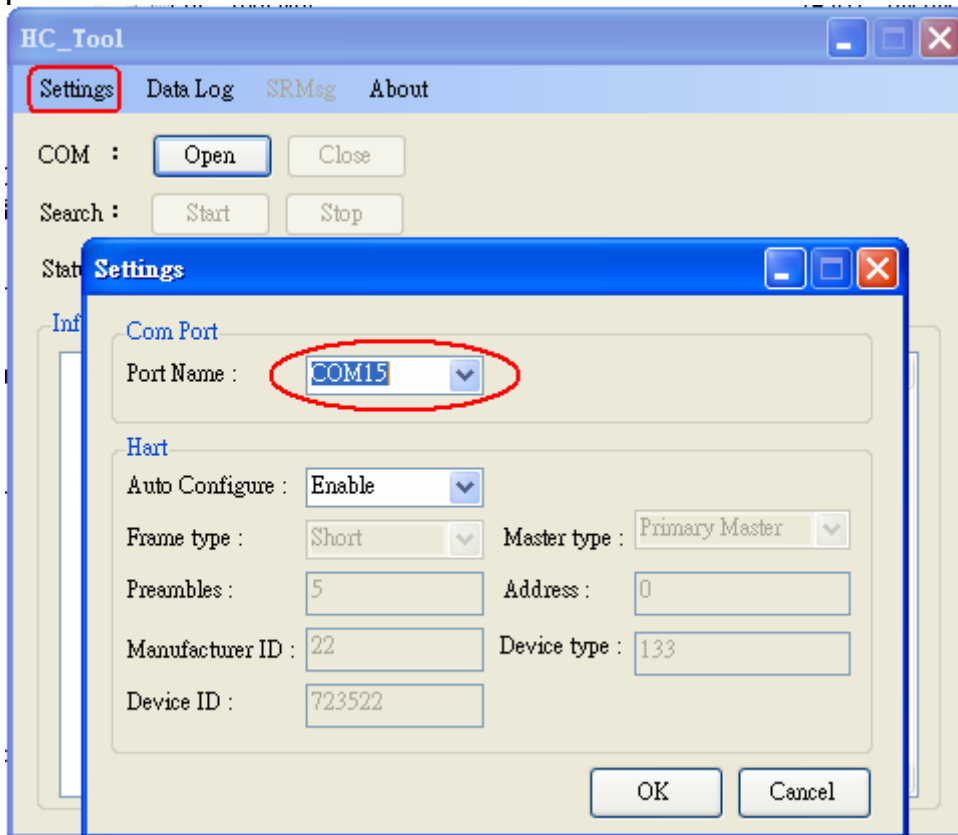

Figure 3-1: “Settings” function of HC\_Tool
**Step2:** Run the “I-7570 Utility”, **HC\_Tool**, and click the “Settings” item like Figure 3-1 to configure the serial connection and HART command parameters.